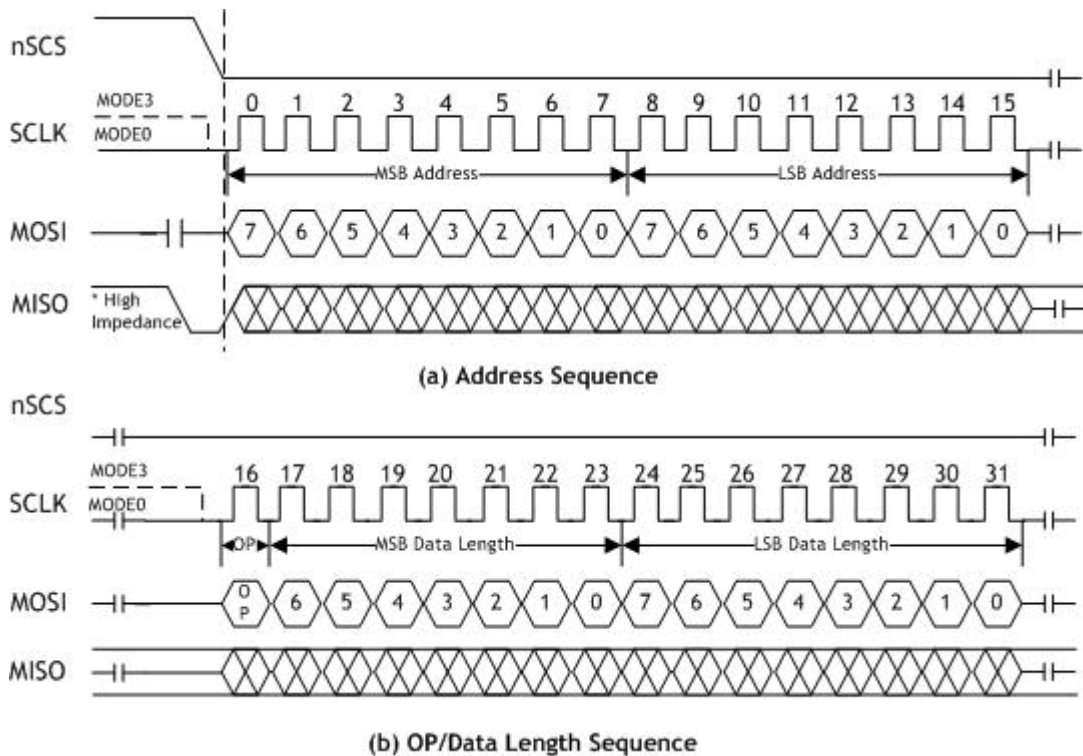
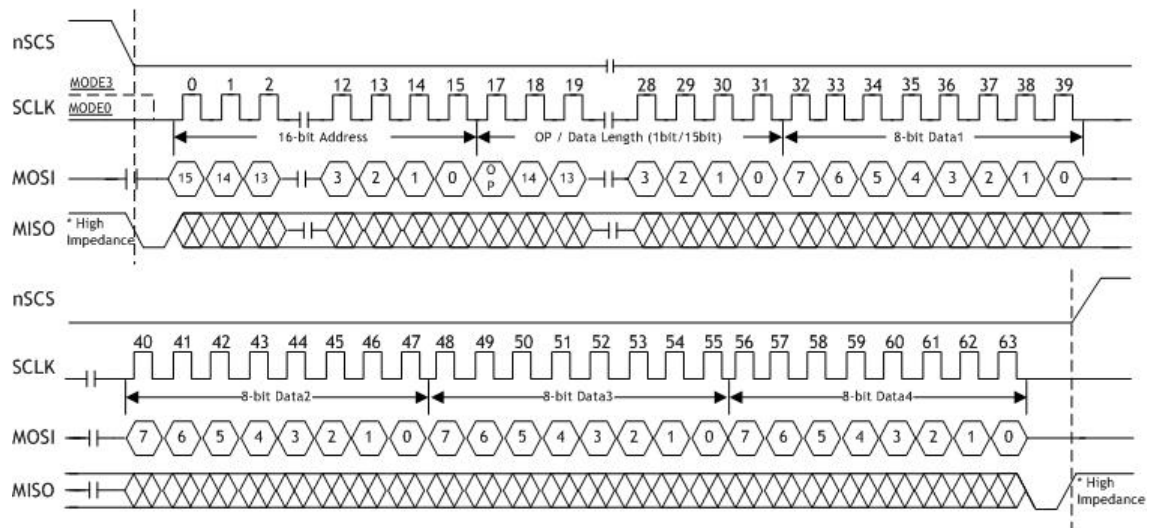

Figure 19 Address and OP/DATA Length Sequence Diagram
Figure 20 READ Sequence
The READ Processing Sequence Diagram is shown in Figure 20. The READ processing is entered by driving nSCS low, followed by the Address, the OP code, the Data Length and the Data byte on MOSI. The Address, the OP/Data Length Sequence Diagram and the Data are shown in Figure 19. The OP code (OP) is defined type of the READ OP and WRITE OP. On OP = 0, the read operation is selected. Otherwise, the write operation is selected. In W5200 SPI mode, the Byte READ processing and the burst READ processing are provided. The Byte READ processing takes 4 instructions which consist of the 16-bit Address, the 1-bit OP code (0x0), the 15-bit Data length and 8-bit Data. Otherwise, the Burst READ processing only takes the Data instruction after the setting of the burst read processing. To distinguish between the Byte READ and the burst READ processing, the Data length is used. If the Data length is '1,' the Byte READ processing is operated. Otherwise, the Burst READ Processing is operated when the Data length is more than two. The MISO pin should be selected by driving MISO low after the falling edge of the nSCS.